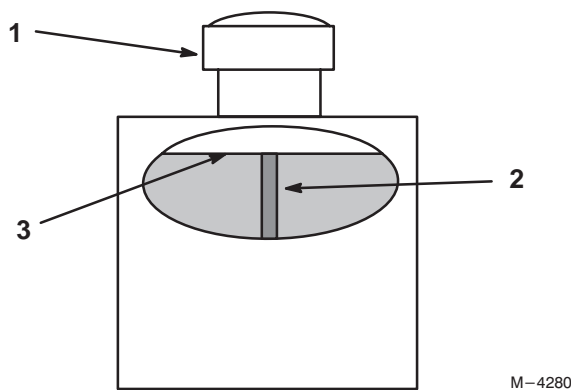

Figure 39
2. Clean area around filler neck of hydraulic tank (Fig. 39).
3. Remove cap from filler neck. Look inside to check if there is fluid in the reservoir. (Fig. 39).
Note: Fluid level should be to the top of the baffle when fluid is warm (Fig. 39).